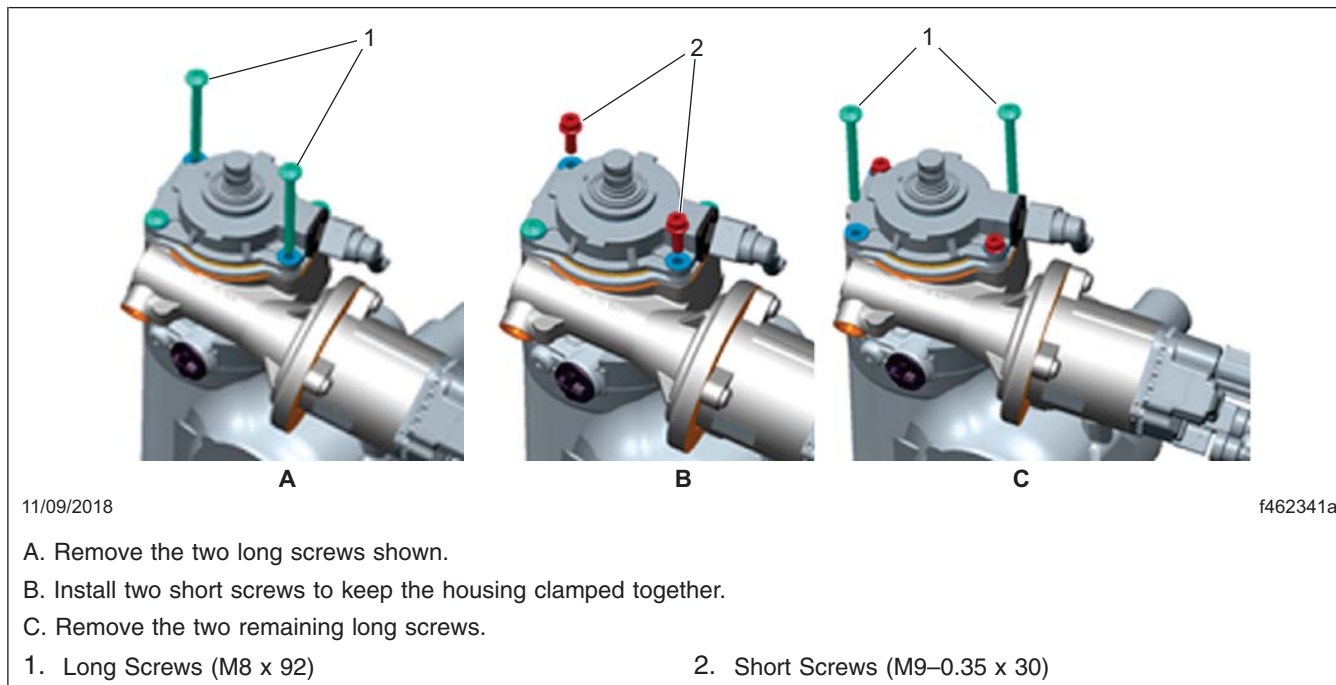

Fig. 1, Removing the Servo Drive Assembly
7. Remove the two screws shown from the servo unit (see Fig. 1, Ref. A), and install shorter (M9–0.35 x 30) screws to keep the housing clamped together during removal (see Fig. 1, Ref. B). Tighten the short screws to 44 lbf·in (500 N·cm).
8. Remove the other two screws (see Fig. 1, Ref. C), then remove the servo drive assembly upwards without twisting it.